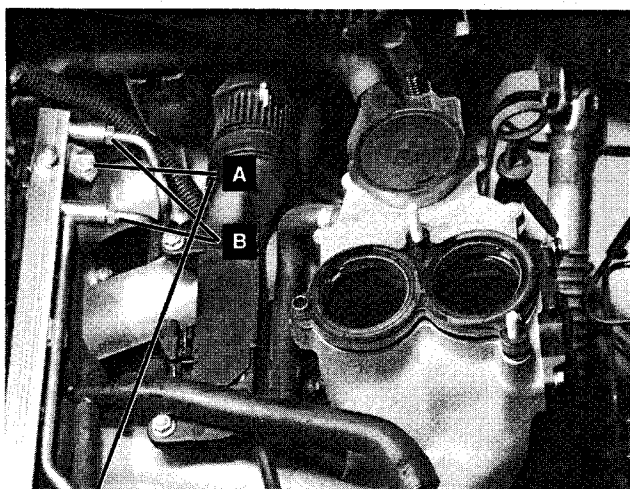

Fig. 17. Location of fuel rail mounting bolts (A) and fuel inlet and return lines (B) on M44 engine. Upper manifold has been removed.
6. Remove fuel rail mounting bolts. See Fig. 17.